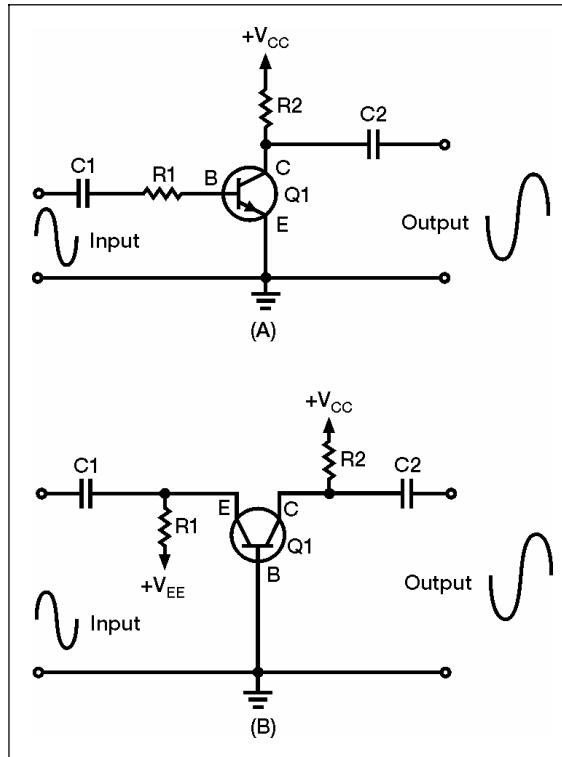

Figure 7-1. Common Emitter and Common Base Amplifiers
7-10. You should be familiar with some amplifier circuits, which should give you an idea of what a difference amplifier is like. Figure 7-1 shows two of the basic configurations for transistor amplifiers (the CE and the CB).
7-11. Figure 7-1, view (A) shows a CE amplifier. The output signal is an amplified version of the input signal and is 180 degrees out of phase with the input signal. View (B) is a CB amplifier. In this circuit, the output signal is an amplified version of the input signal and is in phase with the input signal. In both of these circuits, the output signal is controlled by the base-to-emitter bias. As this bias changes (because of the input signal) the current through the transistor changes. This causes the output signal developed across the collector load (R_2) to change. None of this information is new; this is just a review of what you have already been shown regarding transistor amplifiers.